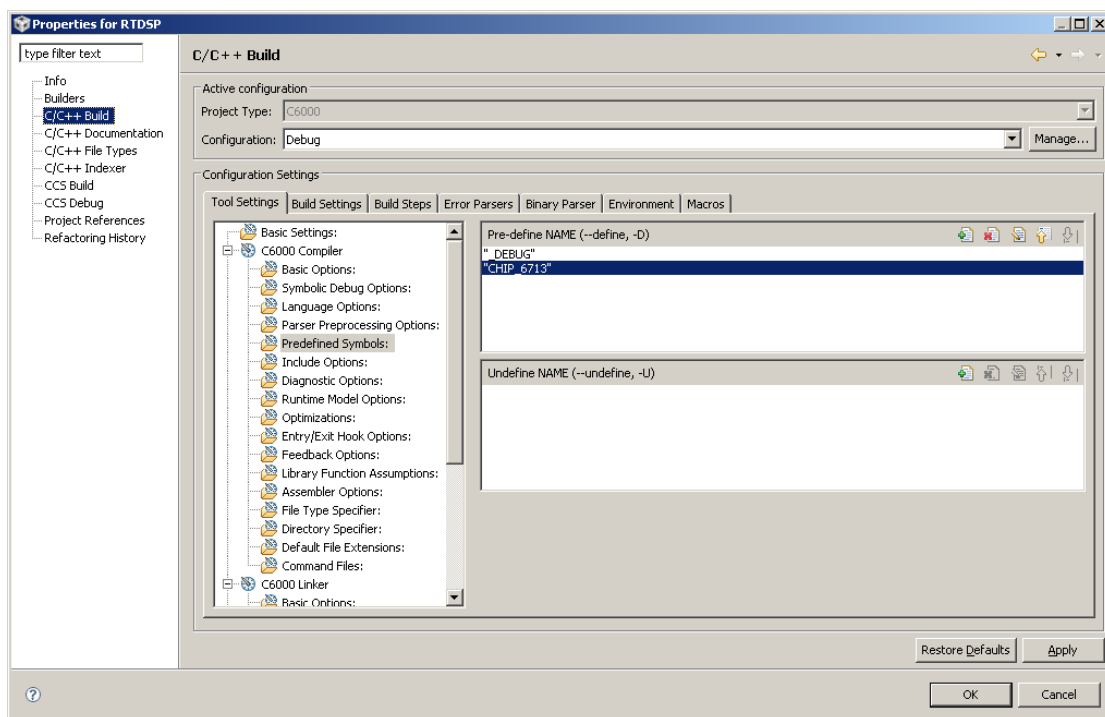

Figure 6: Adding some symbols
- add “_DEBUG” and “CHIP_6713” so that the window looks like figure 6. (A text file *compiler-linker.txt* was included in the lab zip file so that you can copy and paste the text if you wish)